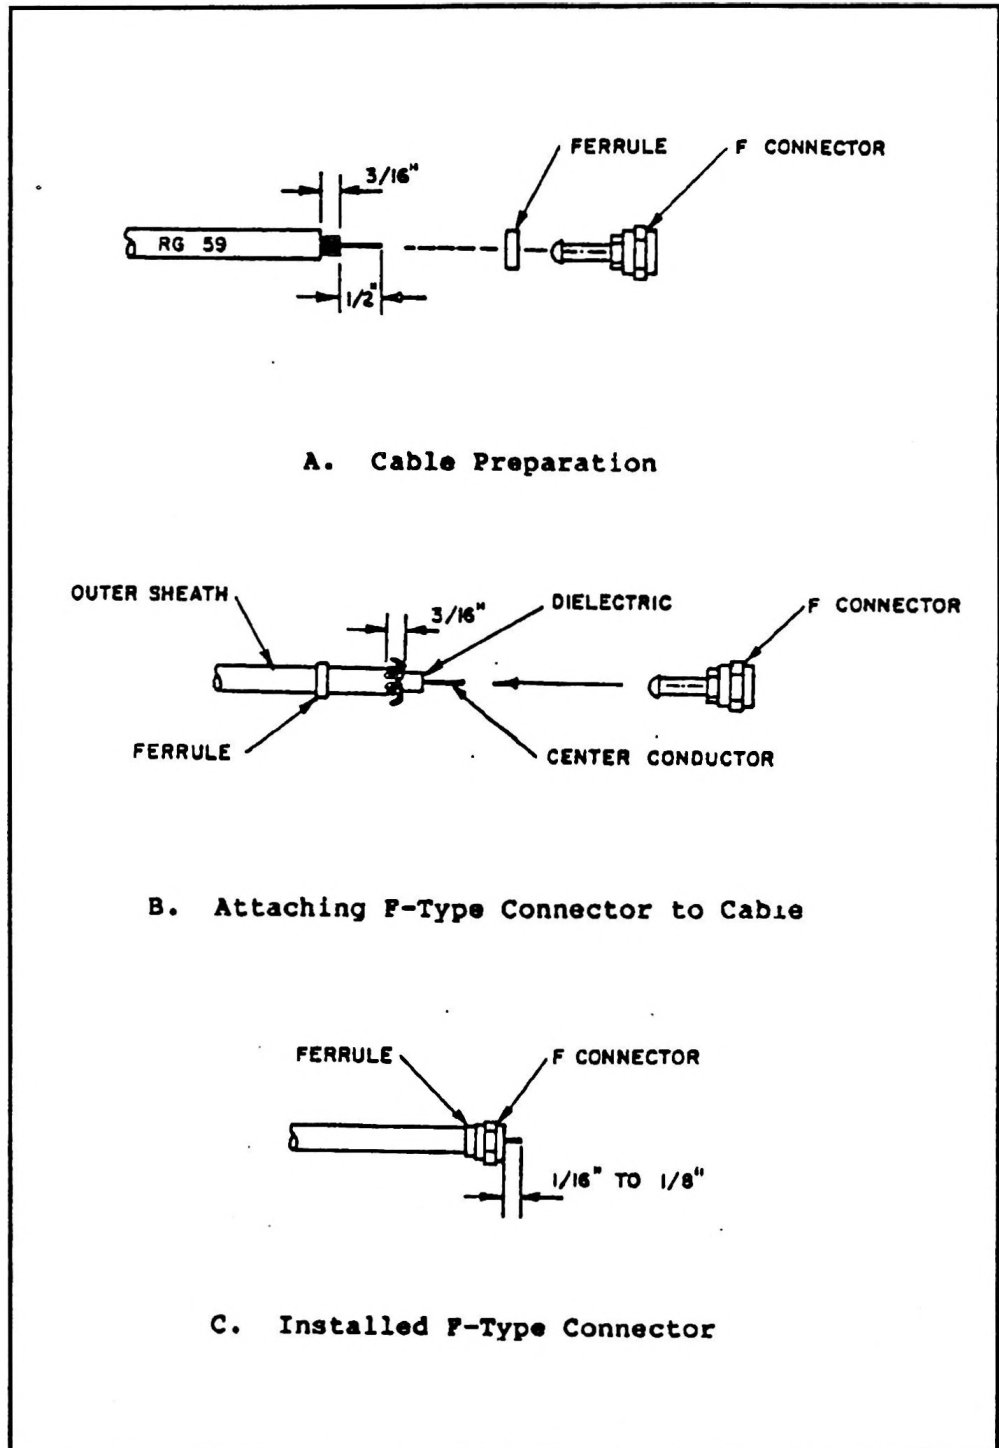
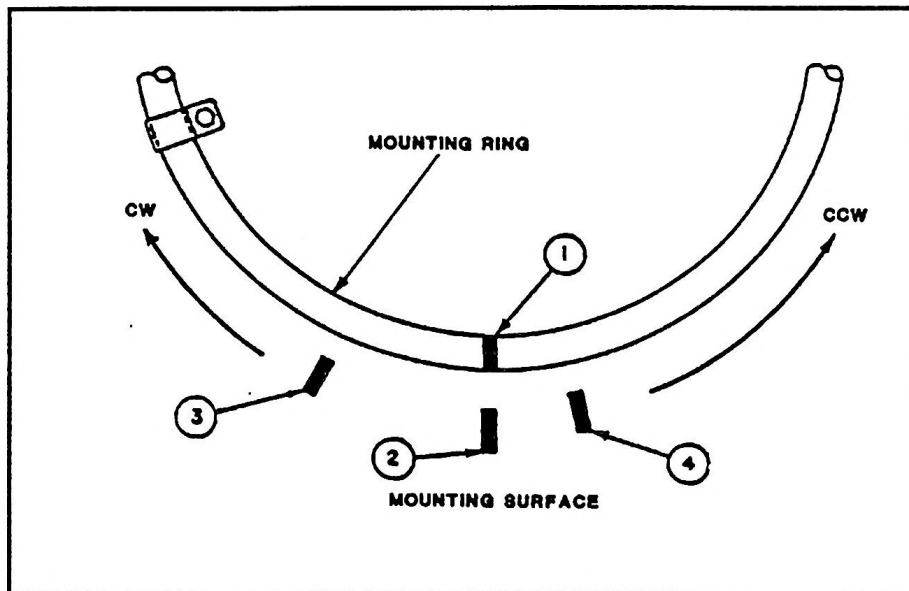

Figure 4-18. Type-F Connector Installation
Figure 4-19. Mounting Ring Adjustment
3. Go to the controller end of the cable. Refer to Figure 4-18 and install the F-type connector on the controller end of the cable by performing the following instructions:
2. Find a convenient fixed reference point on the antenna mounting ring, such as a strut, screw hole, or support bracket, preferably in the area behind the antenna dish. Refer to Figure 4-19 and mark a reference point (1) with a piece of tape.
6. Locate the reference mark made with tape on the mounting ring, Step 2. Refer to Figure 4-19 and, with another piece of tape, mark the mounting surface (2), opposite reference mark (1).
- 1) Refer to Figure 4-19 and return the rotating ring to the starting point (2), opposite the reference mark (1).
- 3) Refer to Figure 4-19 and mark the mounting surface (4) at the point of the highest reading.
- 4) Align the mounting ring reference (1) with point (4) and secure the mounting ring clamps.
10. Reconnect the system coaxial cable to the controller and connect the other end of the cable to the low noise converter. Ensure that the coaxial cable connected to the low noise converter provides a 3-inch drip loop (Figure 4-18).